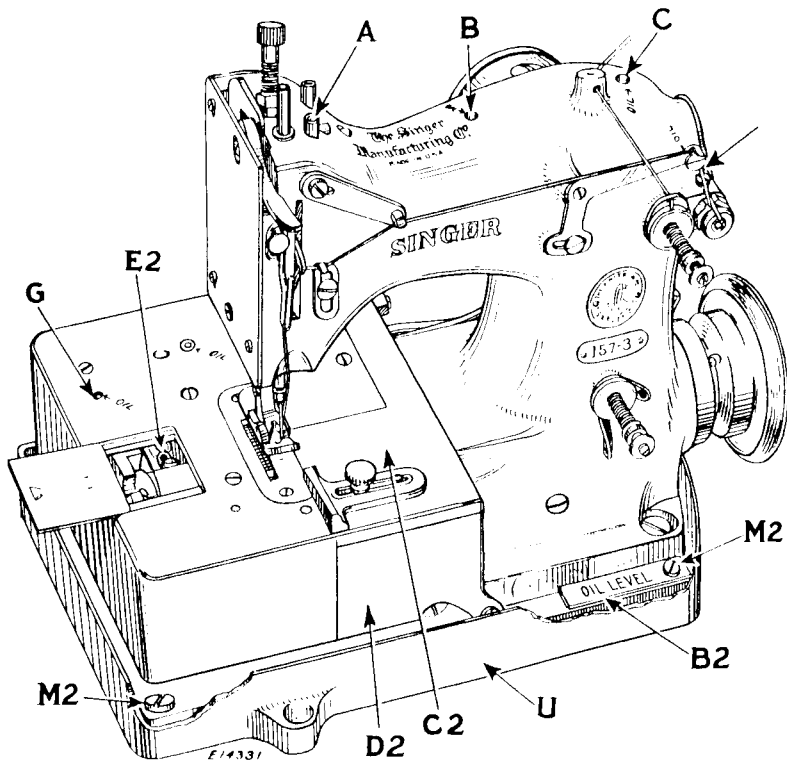
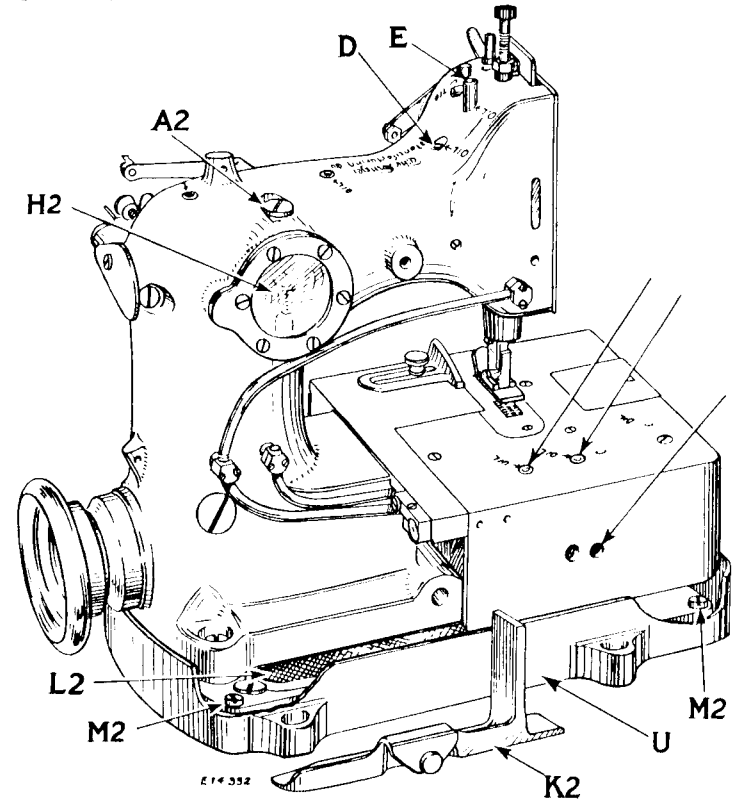
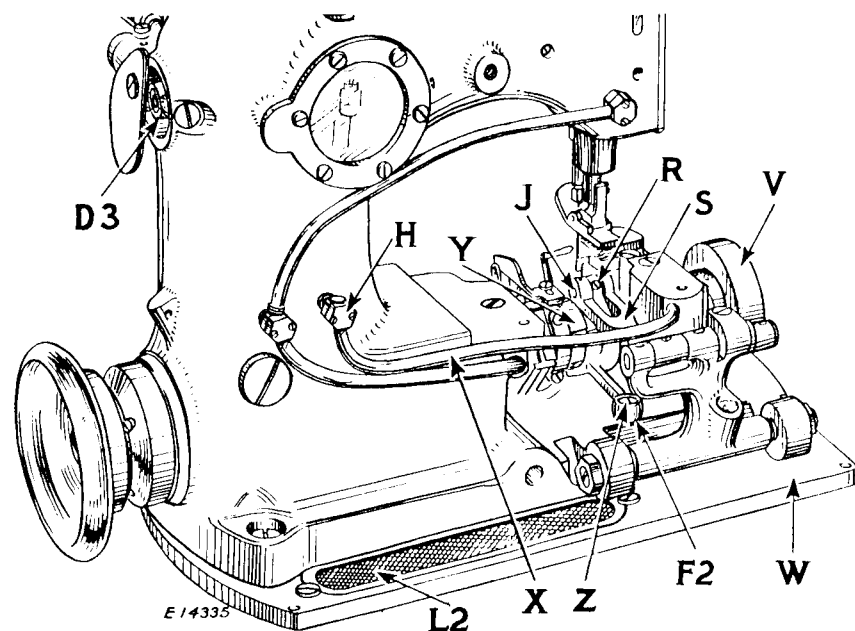

Fig. 2. Oiling Points — Front Side of Machine
Fig. 3. Oiling Points — Rear Side of Machine
Fig. 8. Timing the Machine (Rear Side View)
Remove the screw (A2, Fig. 3) and into this opening pour oil enough to cover the oil gauge (B2, Fig. 2) located in the machine base at the front side of the machine.
NOTE - WHEN OBSERVING OIL LEVEL AT GAUGE (B2), MAKE SUFFICIENT TIME ALLOWANCE FOR OIL TO RISE UP THROUGH FILTER (L2, FIG. 3).
To oil the front end of the feed connection, draw out the slide plate and apply oil to the oil hole (E2, Fig. 2).
Arm side cover (H2, Fig. 3), at the rear side of the machine, is transparent, thus enabling the operator to determine, at a glance, whether or not the splash system is functioning. Should the oil splash not be visible during operation of the machine, a lack of oil in the reservoir is indicated. In such case, stop the machine immediately and replenish the reservoir with the required quantity of oil.
Also apply oil to all oil holes in cloth plate and machine arm, at points indicated in Figs. 2 and 3 by unlettered arrows. Each of these places is marked by the word "Oil". Thoroughly saturate the wicks at (A, B and C, Fig. 2) and at (D and E, Fig. 3).
Attached to the under side of the cloth plate at (G, Fig. 2) is a small reservoir which must be filled through the oil hole (G).
CAUTION. When cleaning beneath the cloth plate, be sure to remove filter guard (K2, Fig. 3) and carefully clean filter (L2, Fig. 3). For this purpose USE A BRUSH to prevent damage to filter.
Such oiling points, beneath the cloth plate, as are not reached through oil holes in the cloth plate, are accessible with the hinged portions (C2 and D2, Fig. 2) of the cloth plate open. With these hinged portions open, apply oil to the oiling points
Between the sewing machine and the sewing machine base (U, Figs. 2 and 3) is a packing plate. This plate is shown as (W) in Figs. 8 and 9, pages 12 and 14. The center of this plate is open and forms the sides of the oil reservoir. When it is considered
First remove filter cover (K2) shown already removed in Fig. 3. Its function is to protect the filter which is partly shown as (L2) in Fig. 3, and is fully shown in Fig. 8, page 12.
Next remove the cloth plate from the machine, then remove the four screws (M2, Figs. 2 and 3) which fasten the packing plate to the base (U), and lift the machine from the machine base. The oil may then be poured from the machine base.
Thread nipper (4, Fig. 5, page 8) assists the tension (3, Fig. 5) to hold the thread while the stitch is being set. This nipper is correctly adjusted when the machine leaves the factory, and no further adjustment should be necessary. However, if the nipper is subsequently removed from the machine, make sure, when replacing it, that the nipper cam (D3, Fig. 8, page 12), on the end of the rock shaft, is set to insure that the nipper will close just before the eye of the needle reaches the goods. It should release the thread on the upstroke of the needle bar when the material, being fed forward, starts to draw the thread.
Take out the four screws (M2, Figs. 2 and 3, pages 4 and 5) and remove the machine from the iron base (U, Fig. 3). DO NOT REMOVE THE PACKING PLATE (W, FIG. 8) FROM THE MACHINE.
Remove the cloth plate, the feed dog and presser foot. Remove oil fitting cap at (H, Fig. 8) and remove oil tube (X, Fig. 8).
Loosen set screw (R, Fig. 8) and remove feed lifting eccentric connection hinge pin (J, Fig. 8), then turn the feed bar (S, Fig. 8) back, away from the machine.
Remove screw (Z, Fig. 8) and remove oil guard holder (F2, Fig. 8) and oil guard (Y, Fig. 8). Take out the two screws which fasten the vibration damper (V, Fig. 8) to the feed eccentric, and remove the vibration damper.
Replace the feed lifting eccentric oil guard (Y, Fig. 8, page 12) and holder (F2, Fig. 8), and fasten by means of screw (Z, Fig. 8).
Return the feed-lifting eccentric bar (S, Fig. 8) to its regular position and fasten it by means of the hinge pin (J, Fig. 8), having the flat of this hinge pin where the set screw (R, Fig. 8) can be tightened against it.
Next replace the oil pipe (X, Fig. 8) having the closed end of this oil pipe about flush with the top surface (bearing the letter "O") of the oil fitting at (H, Fig. 8). Such position of the
Attach the cloth plate to the machine. Place the machine, with packing plate attached, in the base (U, Figs. 2 and 3, pages 4 and 5) and fasten in place with the four screws (M2, Figs. 2 and 3).
NOTE - When the screws (M2, Figs. 2 and 3, pages 4 and 5) were removed (in order to take the machine from the base plate), the oil gauge (B2, Fig. 2) was detached. Be sure to REPLACE THIS OIL GAUGE when fastening the machine and packing plate to the machine base.